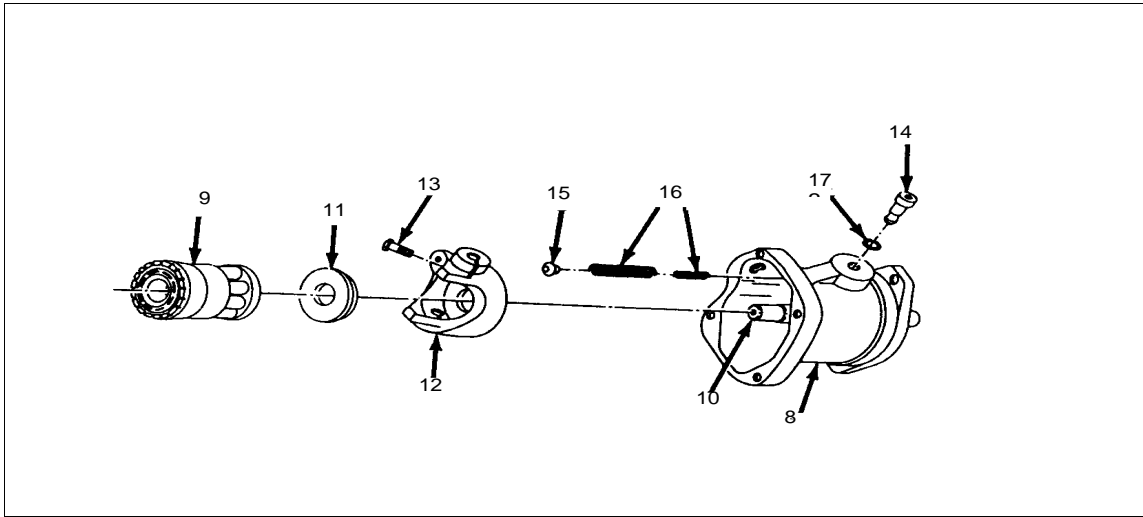

Figure 1-16. Disassembling the piston pump, part III
c. Refer to Figure 1-16, page 1-16, and disassemble the piston pump using the following steps:
- Tip the housing (8) forward and remove the rotating group (9) from the shaft (10).
a. Refer to Figure 1-16, and reassemble the piston pump using the following steps:
- Install the seal (17) on the pintles (14).
- Install the two springs (16), seat (15), and yoke (12) on the housing (8).
- Press down on the yoke (12) and align the screw holes with the holes in the pintle (14) seat. Install two pintles on the housing (8) and the yoke (12).